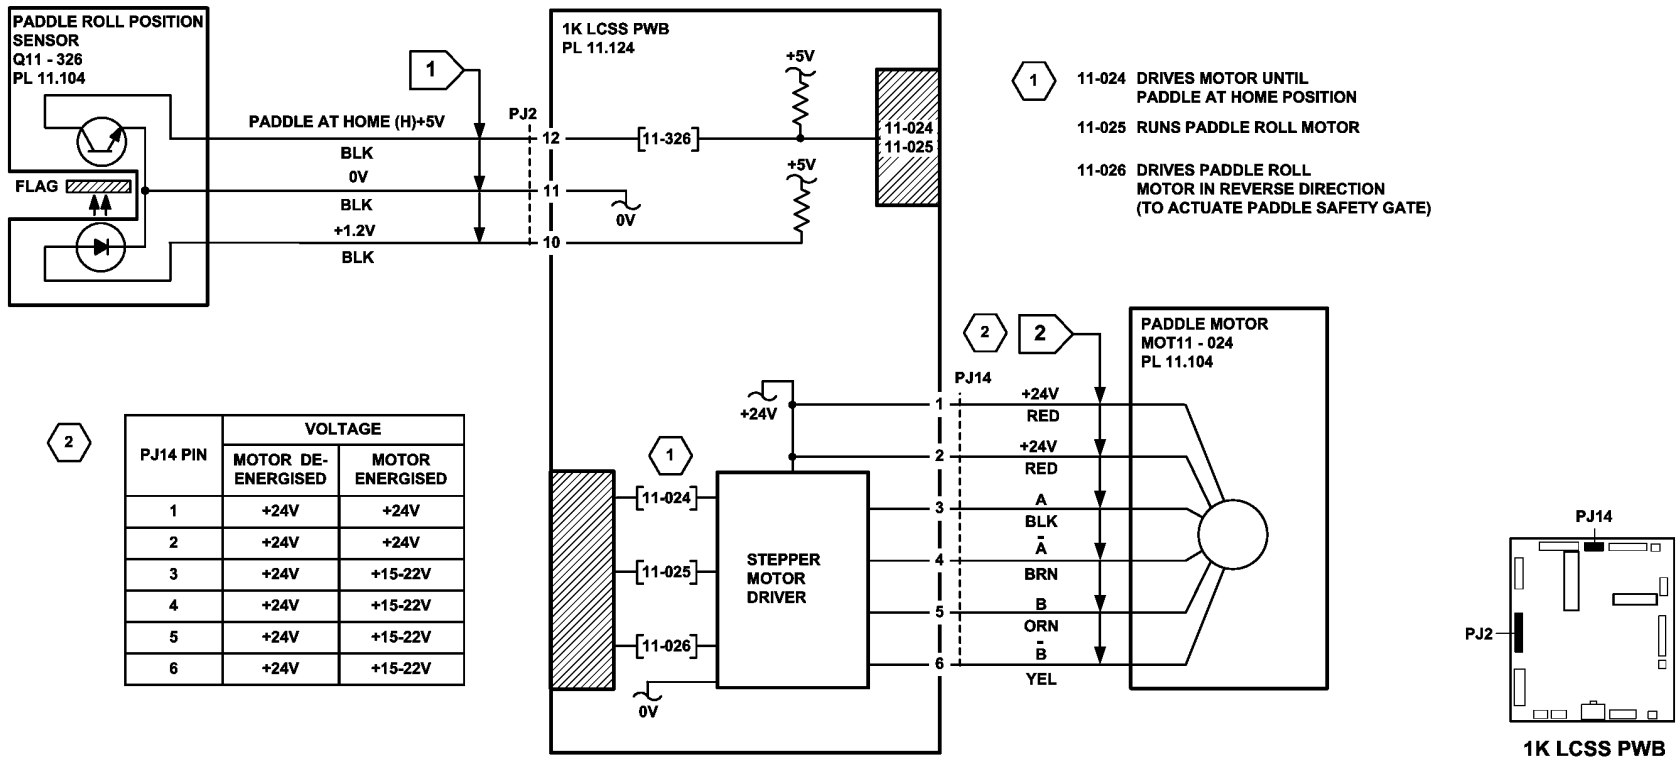

Figure 2 Circuit diagram
- The bin 1 90% full sensor detects when the tray has descended to a position where the tray is 90% full, Figure 2.
- Bin 1 upper limit switch, S11-334, Figure 2.
- Bin 1 lower limit switch, S11-335, Figure 2.